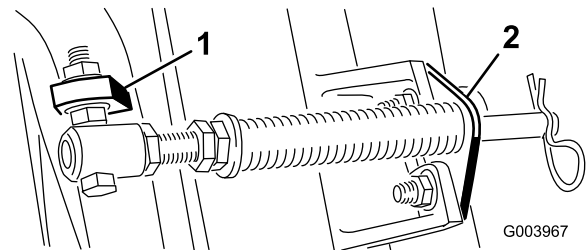

Figure 11
- C. Mount the spring tube bolt to the opposite tab on the carrier frame and secure with the flange nut. The bolt head is to be positioned to the outer side of the tab as shown in Figure 11.
- D. Mount the rod bracket to the cutting unit tabs with the carriage bolts and nuts (Figure 11). Also, on the cutting unit, mount the left hand hose guide to the front of the cutting unit tabs when reinstalling the rod bracket (Figure 13).